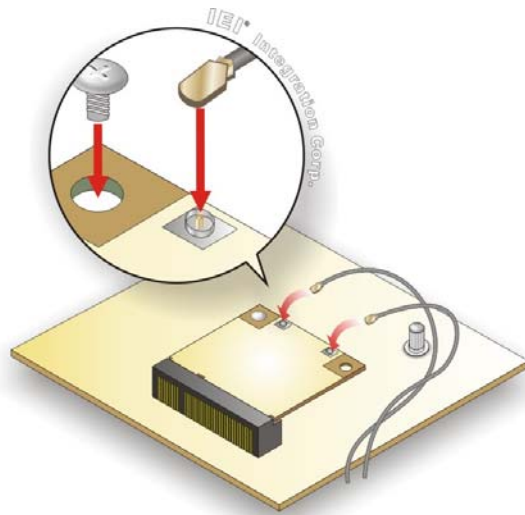

Figure 3-20: Securing WLAN Module and Connecting RF Cables
Step 6: Secure the WLAN module. Secure the WLAN module with the retention screw previously removed (Figure 3-20).
Step 7: Connect the two RF cables to the antenna connectors on the WLAN module (Figure 3-20).